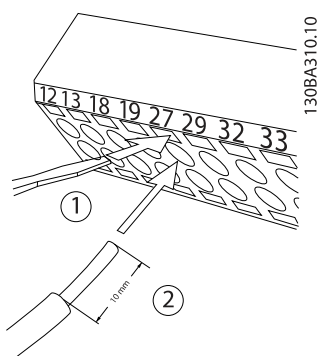

Figure 2.31 Connecting Control Wiring
1. Open the contact by inserting a small screwdriver into the slot above or below the contact, as shown in *Figure 2.31*.